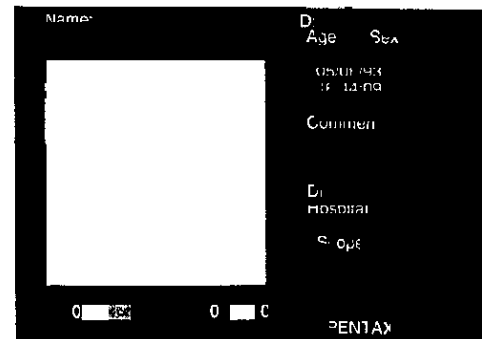

Fig. 26
2. The cursor will be positioned on the first character of the Patient Name field and will appear as a flashing underline. (Fig. 26)